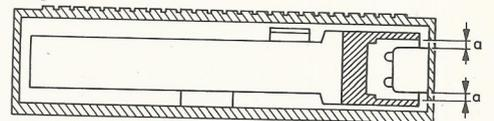

Fig. 3
- Adjust the height of the playback head with nut 18a as shown in Fig. 3 and, if necessary, bend block 65.